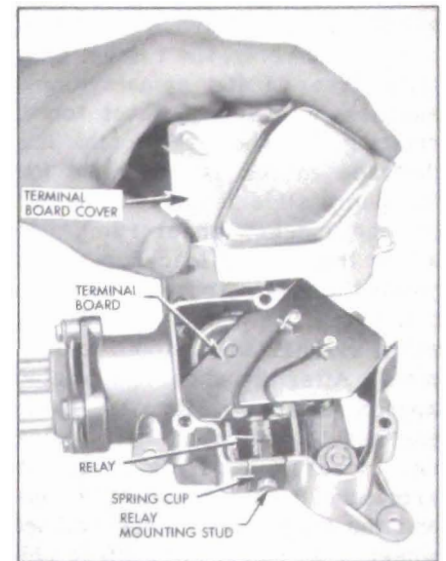

Figure 10-130—Washer Pump—Cover Side
A relay within the pump housing is energized anytime the washer button is depressed. See Figure 10-130. When energized, the armature is pulled up against the relay to release the ratchet pawl from the armature, allowing the ratchet pawl to engage the ratchet wheel teeth. At the same time, the relay armature hair spring trips to a position under the armature, holding it away from the ratchet wheel and ratchet pawl.
2. Slide spring clip off relay mounting stud. See Figure 10-130.